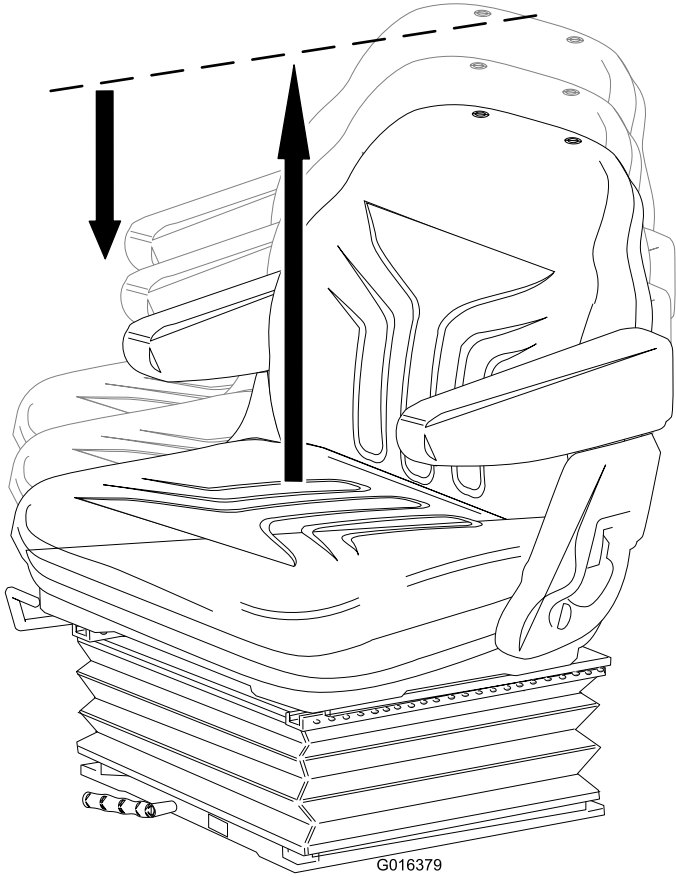

Figure 13
- **Height adjustment:** Manually lift the seat for incremental height adjustment. To lower the seat, lift it beyond the highest setting, then allow it to drop to the lowest setting (Figure 13).